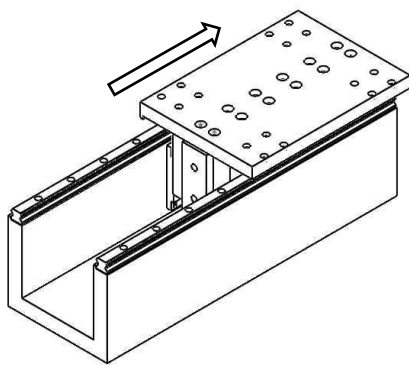

Figure5.1-22 Forcer base movement
- ▶ Move the forcer base to install the remaining stators. (refer to Figure5.1-22)